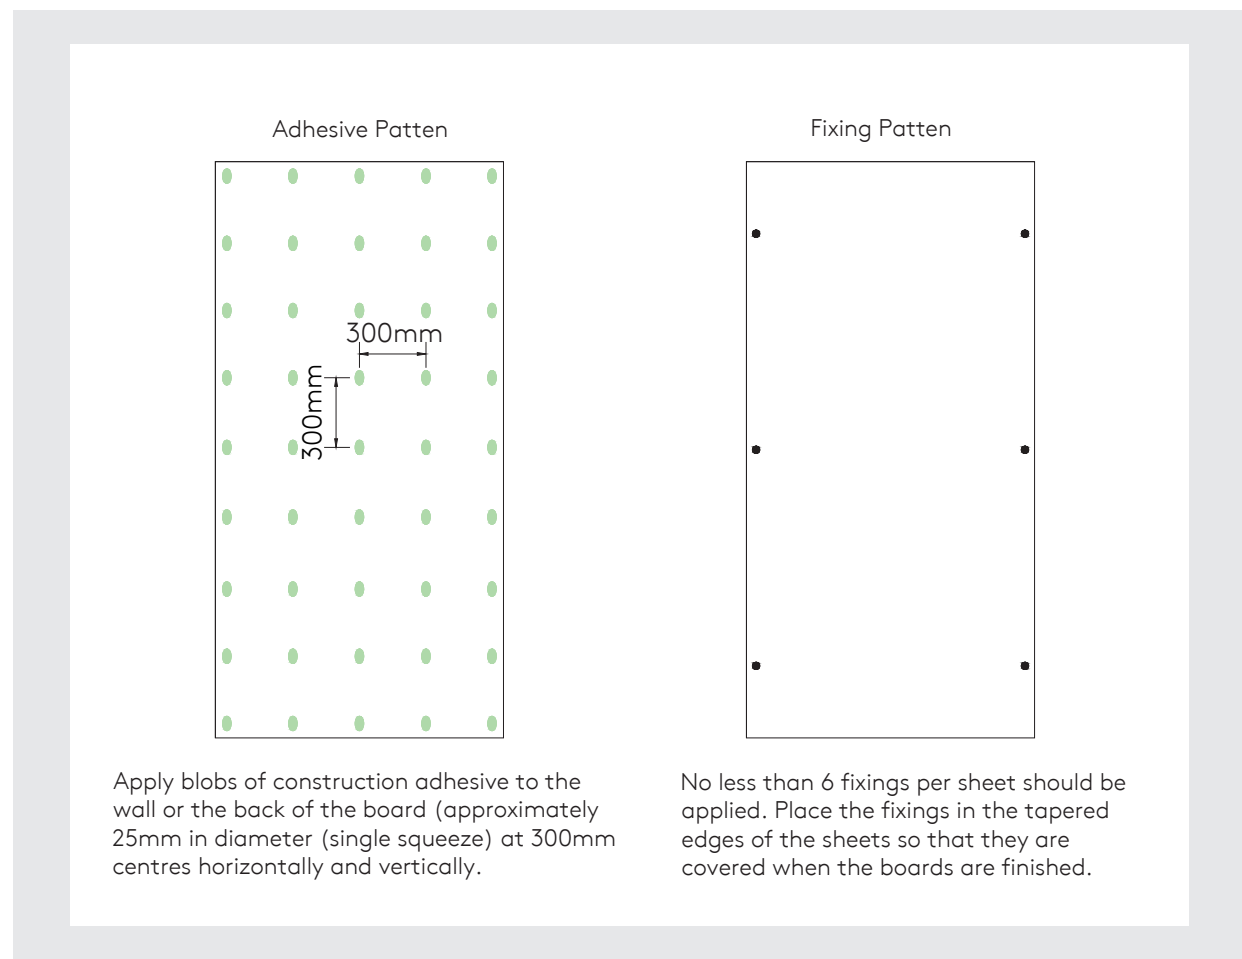

Figure 11 – Construction Adhesive Pattern
- Once the adhesive has set (construction adhesive will grab instantly, and can set within the hour. Always consult manufacturers guidelines), apply a minimum of 6 appropriate fixings per board as shown in (Figures 11 & 12).